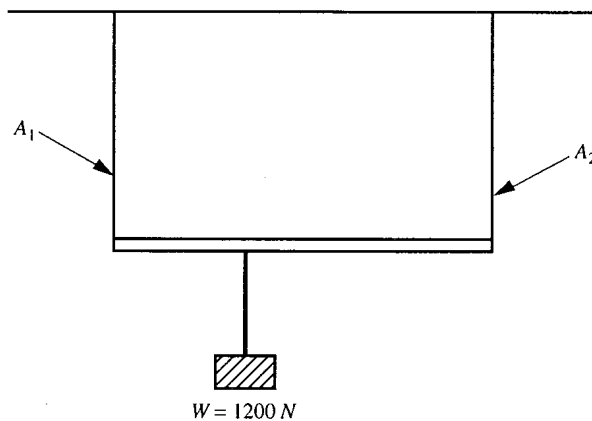

Fig. 11-10
**Problem 11.23.** A light, rigid, horizontal bar is suspended from its ends by two equally long copper wires of cross-sectional areas  $A_1$  and  $A_2$ , as shown in Fig. 11-10. A weight of 1200 N is then hung one-third of the way from the left end.